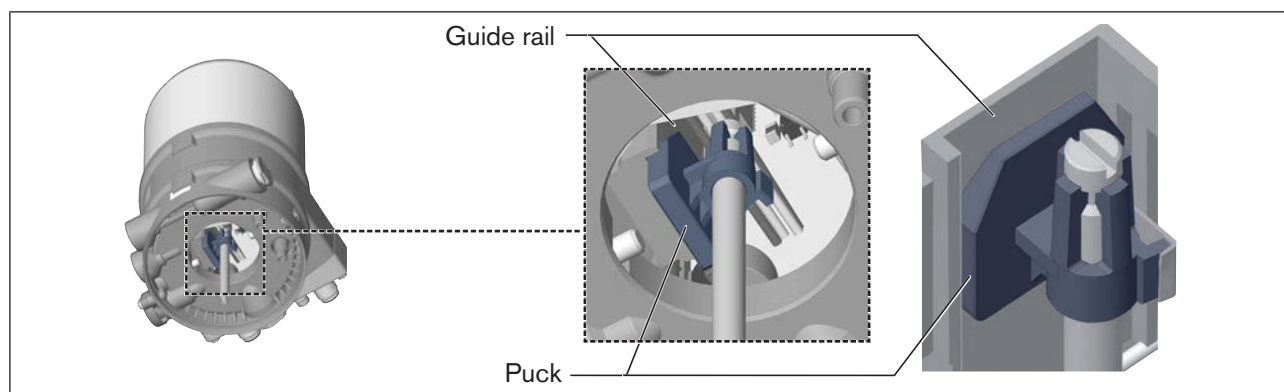

Figure 19: Aligning the puck
- Place Type 8692/8693 onto the actuator. In doing so, align the puck of the actuator with the guide rail of Type 8692/8693 (see "Figure 19").